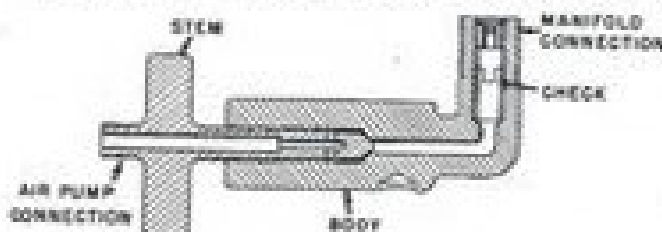

Figure 15. Air input valve (sectional view).
d. MAINTENANCE. (1) After each 10 tanks full of fuel, or oftener as required, remove the output valve and uptake tube and clean the valve and screen.
(2) Inspect valve to insure that valve seat and check are smooth and that the threads in the valve body are in good condition.
(3) Test the valve by blowing through the uptake tube while the valve is being held in a normal position. A sudden rush of air through the valve should cause the valve to close.
(4) Replace any defective parts.
a. GENERAL. The air input valve (fig. 15) is